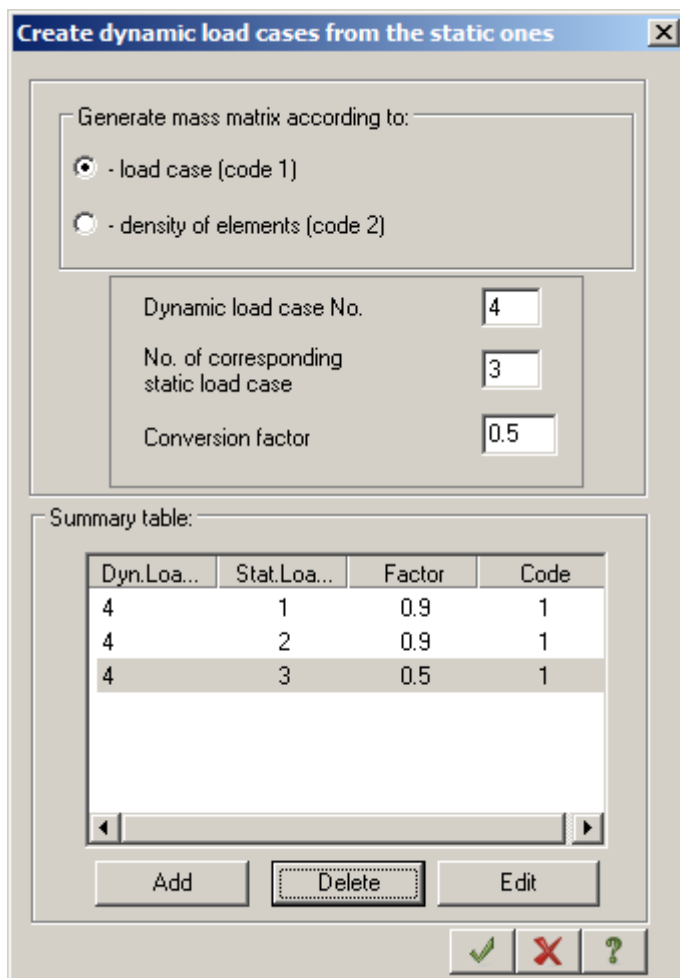

Figure 11.24 **Create dynamic load cases from the static ones** dialog box
- ⇒ In the **Create dynamic load cases from the static ones** dialog box (see Fig.11.24), under **Generate mass matrix according to**, click **Load case (code 1)** and to create the first line of the summary table, specify the following data: